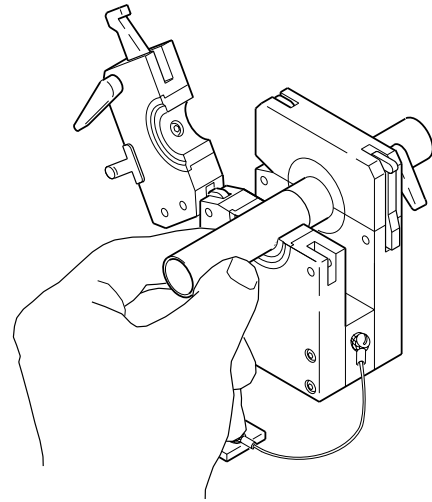

Figure 16 Placing Second Work Piece
5. Butt the second work piece against the first work piece, and lock down the top side plate. See Figure 16.